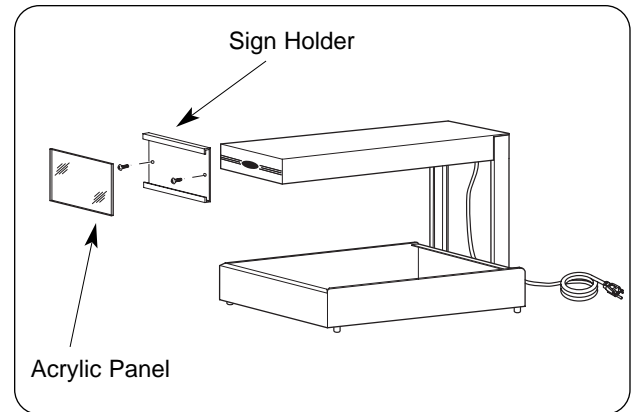

Figure 17. Installing Optional Sign Holder - GRFFL Model with Toggle Switch
1. Remove two outer screws from front of unit (See Figure 17).